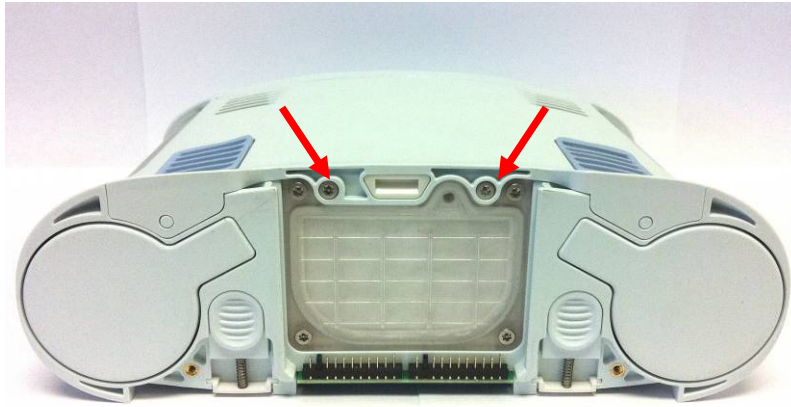

Figure 2: Location of screws
2. To remove the front housing, place the device on its back side and remove the two screws that secure the front housing to the chassis (Figure 2)